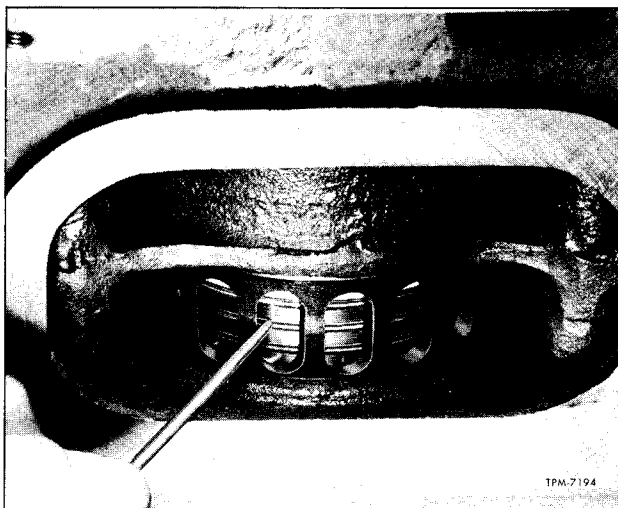

Figure 3—Inspection for Broken or Stuck Piston Rings (Typical)
a. Piston rings may be stuck or broken. To determine the condition of the rings, remove the air box cover and inspect them by pressing on the compression rings with a blunt tool (fig. 3). A broken or stuck compression ring will not have a "spring like" action.